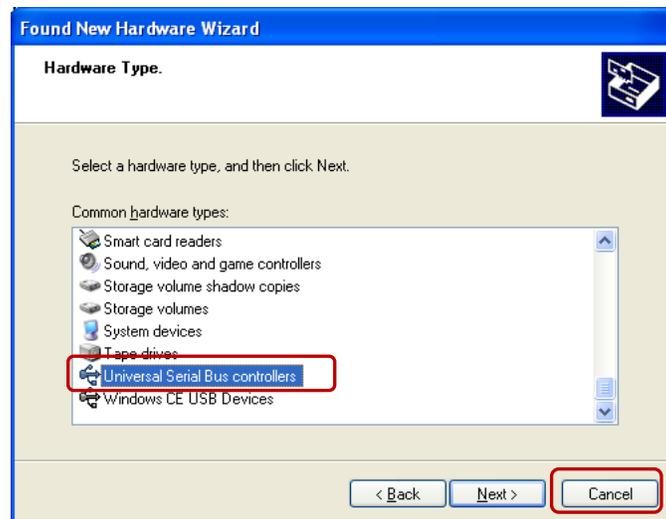

Fig. 9
**\*Note:** If a “Hardware Type” screen comes up as shown in Figure 9, select > “Universal Serial Bus controllers”. Then click > “Next”.